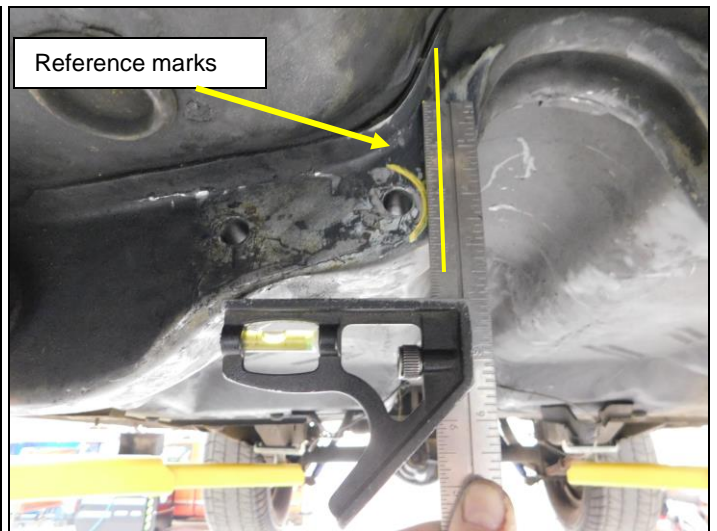

Figure 2
2. Use a small square and draw a vertical reference line straight up as a guide to be used for making cuts (**Figures 2 & 4**).